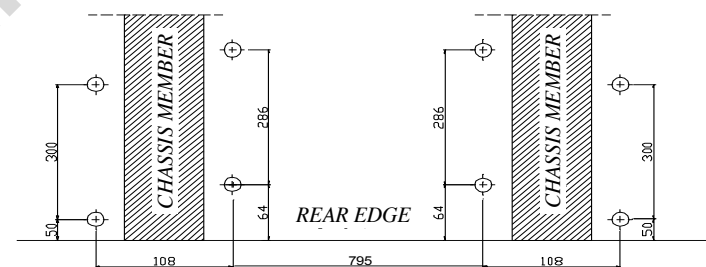

Fig. 1. Underneath view after bumper disassembly.
2. Underneath the car mark points according to figure 1. Next drill holes using bit $\varnothing 11\text{mm}$, make very carefully.
3. Inside the trunk put suitable upper fish-plates (pos.8).
4. Underneath the car put side brackets (pos. 4 and 5) and through holes (pos. A) and fish-plates (pos. 8) fix using bolts M10x35mm (pos. 10).
5. Underneath the car put fish-plates (pos. 6 and 7), next through holes (pos. B) and fish-plates (pos. 8) fix using bolts M10x35mm (pos. 10) .
6. Through holes (pos. C) fix main bar of the towbar (pos. 1) with side brackets using bolts M12x35mm (pos. 9).
9. Fix body of the automat and place tow-ball according to supplied instruction. Note! Remember to place socket plate (pos. 3) as shown on the drawing 1.